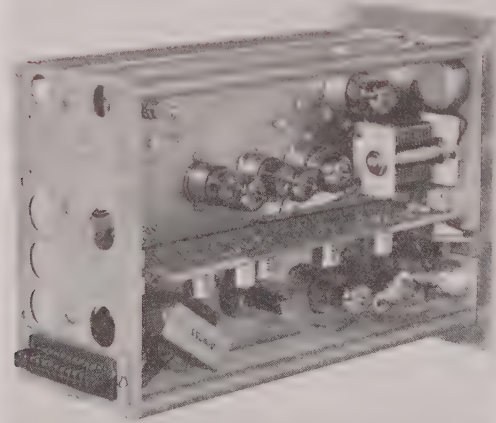

Figure 6-3
- (b) With the HFN unit, operating frequency is set by insertion of the proper plug-in tuning circuit board (figure 6-3). When the board is seated, the selected frequency will appear in the small window on the front panel (figure 6-2).
- (3) Obtain a trace on the CRT with the initial pulse and an echo pulse from the test specimen appearing on it.
- (4) Manipulate the PULSE LENGTH and PULSE TUNING controls and note their effects. The LENGTH control will affect the signal amplitude and will also affect the width of the initial pulse and echo signal. The amplitude will increase with increased width. (Since increasing the width of the initial pulse may obscure echo signals from discontinuities close to the entrant surface, the PULSE LENGTH control should be used with discretion and increased only when the sensitivity controls cannot provide sufficient signal amplitude.) Note that signal amplitude and appearance can be improved by use of the PULSE TUNING control: this "trims" the Pulser/Receiver for optimum operation with a given cable and transducer.
- (5) With the REJECT control CCW, note that the sweep outside of the initial pulse and echo signals tends not to be "clean". Small random signals from the test specimen and noise signals from the unit ("grass") appear all along the sweep. By adjusting the REJECT control CW it should be possible to clean up the sweep by eliminating all but the initial pulse and desired echo signal.
- (6) Before attempting to test under specific requirements, study carefully the information on operating techniques given in the forward section of this manual and be sure to familiarize yourself with any accessory or recording equipment being used with the Reflectoscope.